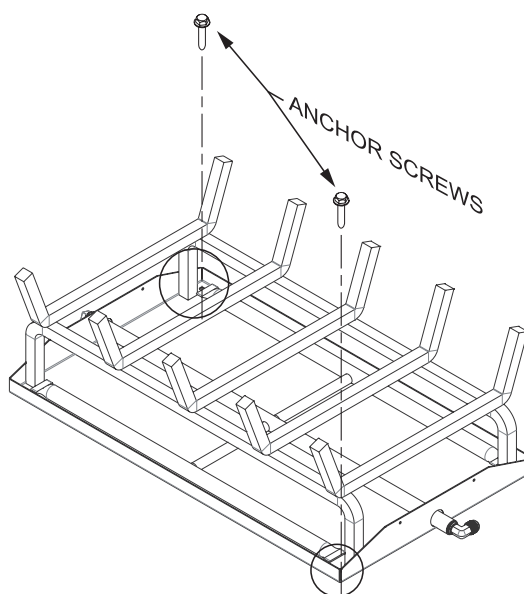

Figure 13
2. An anchor hole is provided in the two bottom side members of the grate frame. After centering the grate correctly, mark the hole positions on the fireplace/firebox floor. Drill two (2) 5/32" diameter holes approximately 1-1/2" deep for masonry screws or 1/8" hole for sheet metal screws.
3. Anchor the grate to the fireplace/firebox floor using the screws provided. Refer to **Figure 13**.